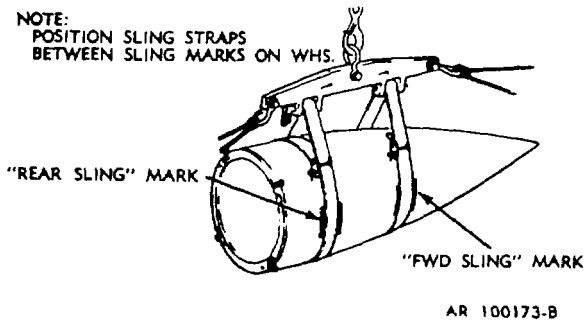

Figure 2-2. Warhead section with sling straps between "SLING" markings.
(3) Lower sling until beam is slightly above warhead section. Loop two sling straps under warhead section, aligning rear strap between sling location marks. Rear strap is the strap with only one connector loop. Forward strap contains two connector loops.
(4) Position two sling straps in proper positions around warhead section as follows:
- (a) Connect rear strap loop to buckle by pulling inside part of strap with buckle over top of warhead section to make connection. Position strap and buckle so that buckle is slightly above the side of warhead section, (approximately 2 o'clock position). Ensure rear strap is between "REAR SLING" markings (fig 2-2).
- (b) Connect forward strap in the second connector loop of strap, resulting in a smaller diameter. Ensure forward is between "FWD SLING" markings (fig 2-2).
- (5) Slowly take up slack by raising sling until straps are taut.